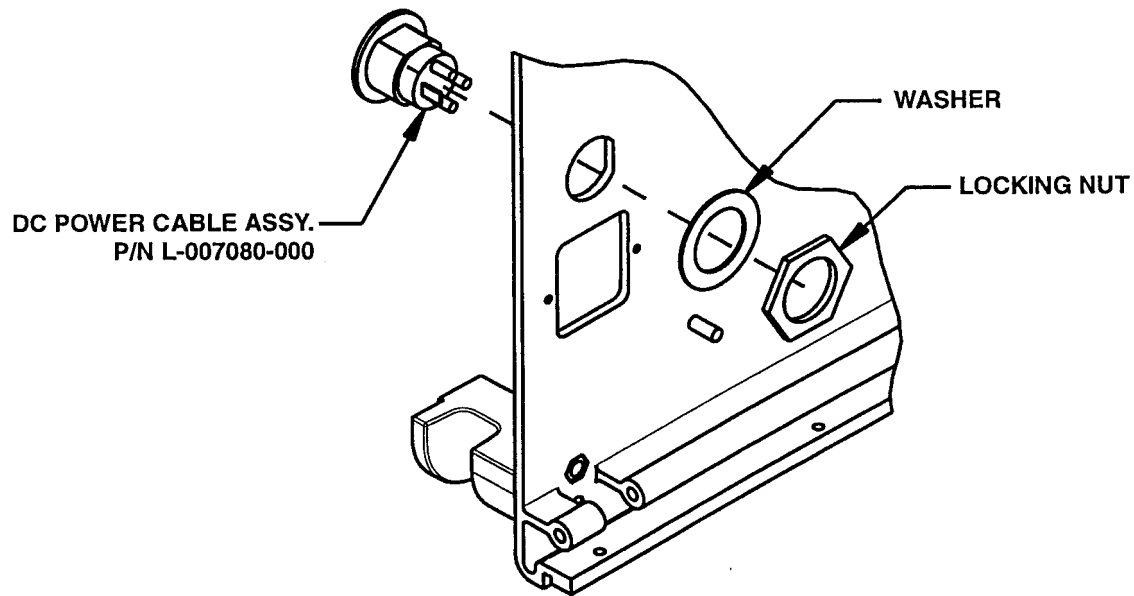

FIGURE 4-40.
2. Remove the locking nut and the washer from the connector housing, if present. Insert the connector housing into the DC power hole from the outside of the rear extrusion, noting the connector's orientation. See Figure 4-40. Reinstall the washer.
3. Apply a drop of Loctite 425 adhesive (P/N L-004448-000) to the threads of the connector towards the rear extrusion. Use a 15/16-in deep socket with ratchet or wrench to secure the housing with the locking nut removed earlier. Figure 4-40.